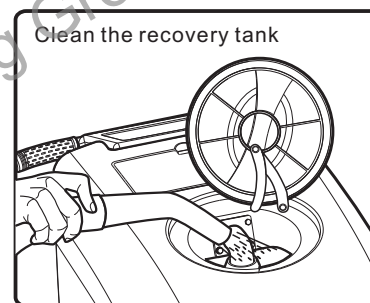

fig. 9
- Clean the recovery tank every time the cleaning work is finished. Take out tools and other things on the cover of the tank. Then drain all the soiled water in the recovery tank. After this, use clean water to wash the recovery tank, and air-dry it. Keeping the recovery tank clean can prevent sludge or foreign objects from blocking the tank(fig.9).